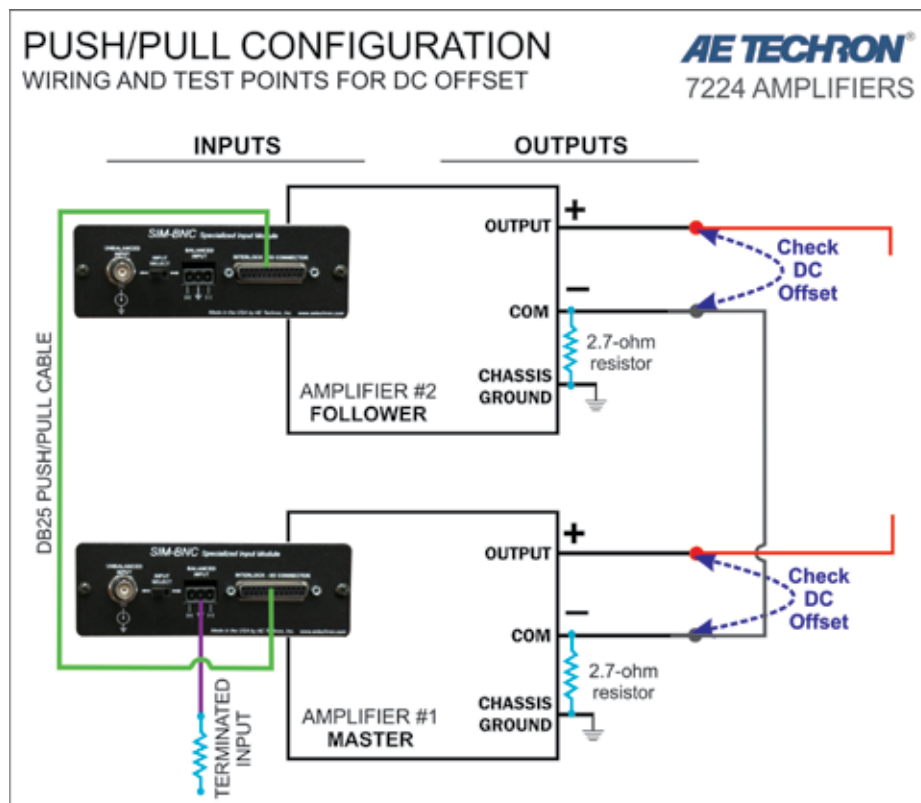

Figure B.2.12 – Measuring DC Offset
7. Using a digital voltmeter set to DC, measure across each amplifier's back-panel output connector terminals (OUTPUT to COM) to verify that the DC offset of each amplifier is less than 10 mVdc. See **Figure B.2.12**. NOTE: If either amplifier's DC offset is greater than 10 mVdc, the amplifier may require servicing. Contact **AE Techron Technical Support**.